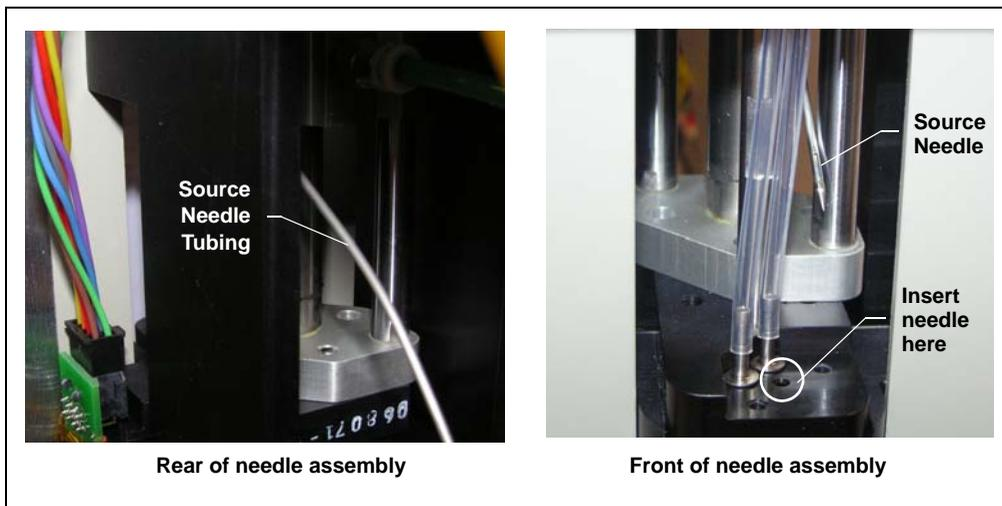

Figure 5-26. Routing the New Source Needle to the Needle Block
- From behind the needle assembly, route the new source needle and tubing (P/N 068961) through the two posts on the needle assembly and then to the front of the needle assembly (see Figure 5-26).
- With the eye of the source needle facing toward the front of the needle block, insert the source needle into the middle opening on the needle block (see Figure 5-26), just until it stops.